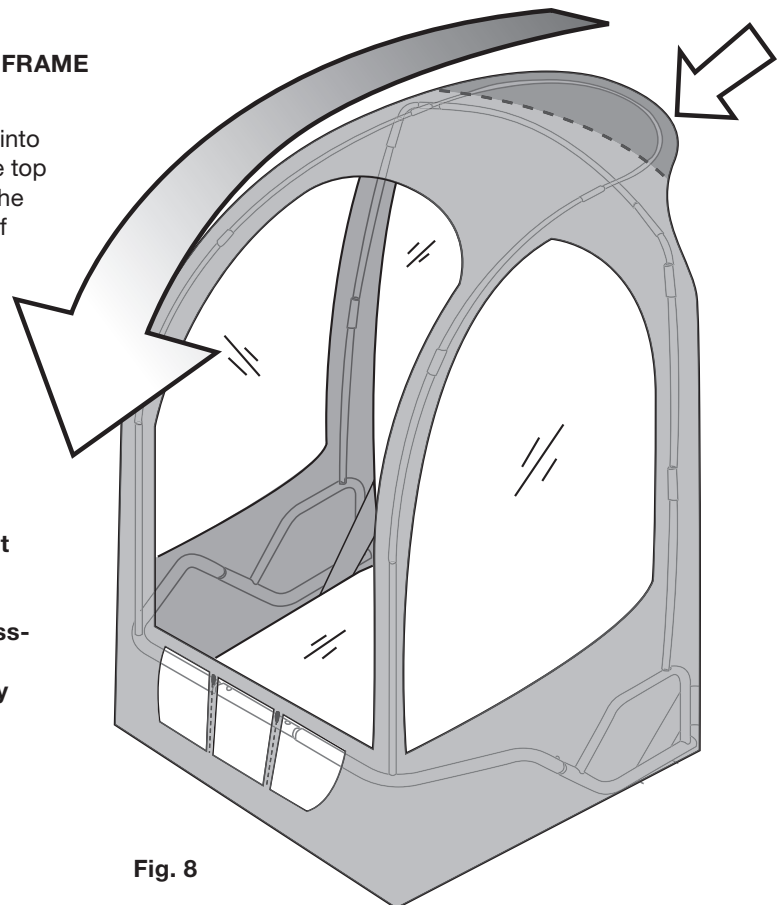

Fig. 8
### INSTALL THE FABRIC CAB SKIN TO THE ASSEMBLED FRAME (FIG. 8)
11. Unfold the fabric cab skin [Q] and find the pocket sewn into the top rear part of the cab skin roof. Carefully insert the top curved section of the assembled front hoop poles into the pocket on the cab skin. The front hoop poles and roof of the cab skin will rest on top of the assembled frame hoop poles. (Fig. 8)